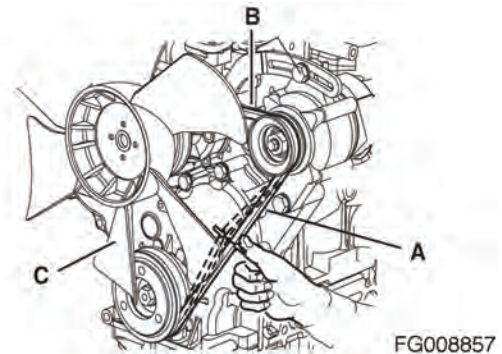

Figure 78
1. Press the V-belt down with your thumb with a force of approximately 22 ft•lb (98 N•m; 10 kgf) to check the deflection. There are three positions to check for V-belt tension (A, B and C, Figure 78). You can check the tension at whichever position is the most accessible. The proper deflection of a used V-belt at each position is: